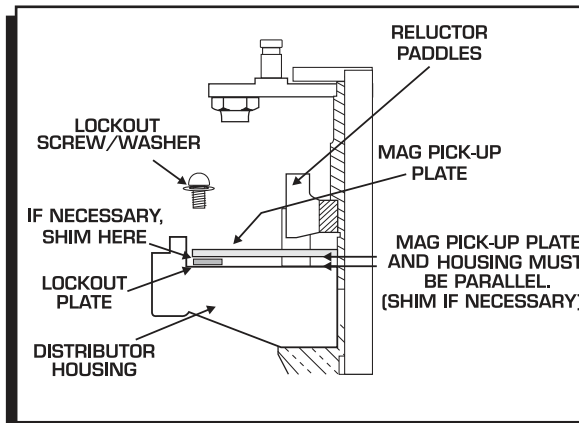

Figure 15 Checking Installation of the Lockout Plate.
5. Install the supplied screw and washer through the Lockout and tighten. It is important to make sure the pickup plate is parallel with the housing of the distributor (Figure 15). If it is cocked or slanted, the paddles of the reluctor may contact the pickup. Check the clearance by rotating the distributor shaft. If necessary, use the supplied shims under the Lockout hold-down to correctly position the pickup plate.